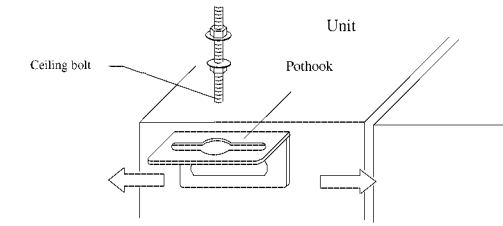

Fig.4
2. Install the hook on the unit, as shown in Fig. 4